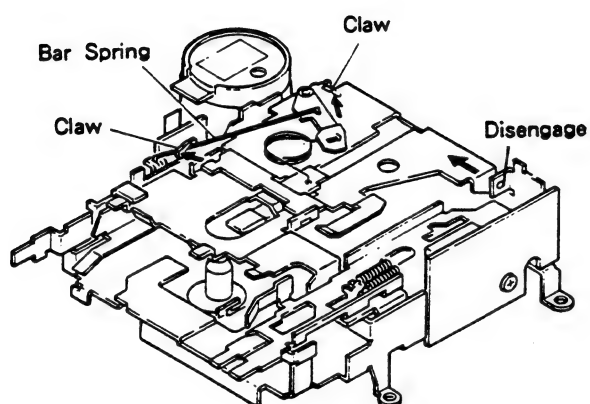

Fig. 5
2. Extend claws (2 points). (Fig.5)
3. Remove bar Spring. (Fig.5)
4. Disengage projection by moving in a direction of arrow mark. (Fig.5)